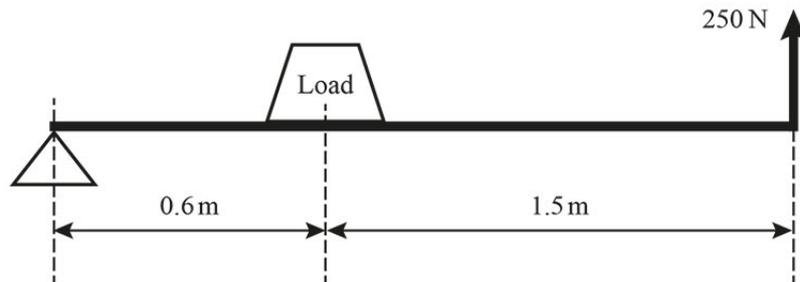

Fig. 3
- (c) Fig. 3 shows a diagram of a lever. The mass of the lever can be ignored.
- (i) Name the class of lever shown in Fig. 3.